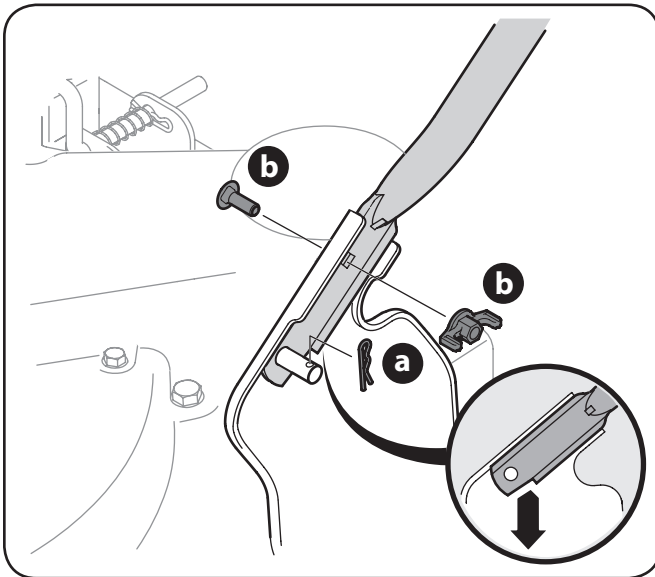

Figure 3-1
- a. Place the bottom holes in lower handle over the pins on the handle brackets and secure with hairpin clips. See Figure 3-1.
- b. Insert carriage screws through upper hole in lower handle from the inside and secure with wing nuts. See Figure 3-1.